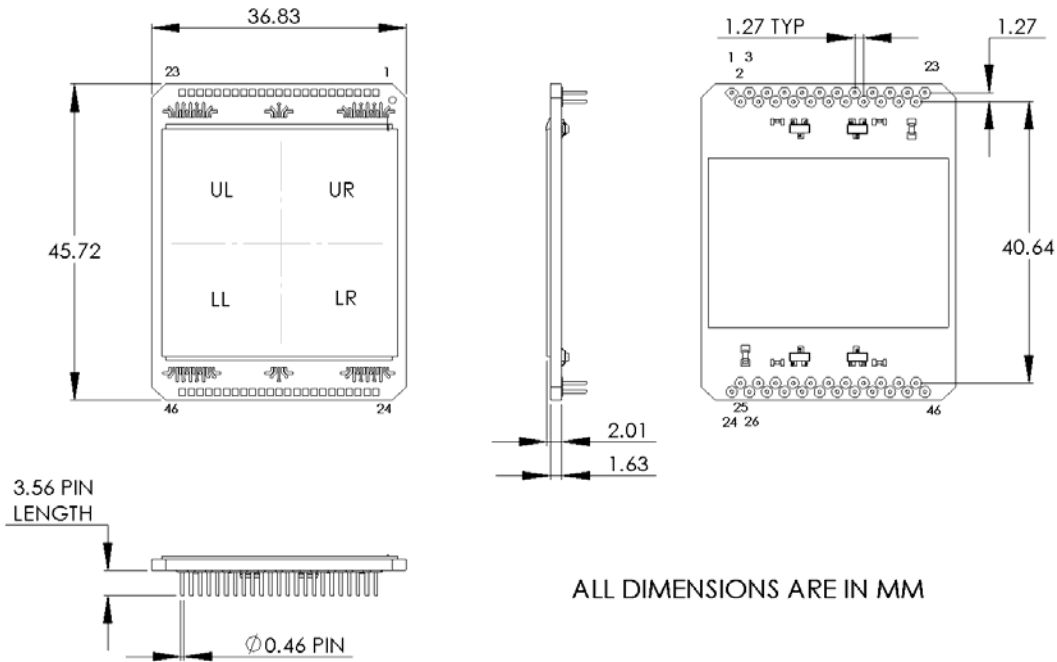

Figure 1: CCD 3041 FI Package
Die Orientation and Pin Designation: CCD orientation is indicated as shown in Figure 1 below, with pin 1 shown in the upper right (UR) quadrant when CCD is viewed from above. Pinouts are as shown in Figure 2. Note that the same pinouts are used for the back-illuminated version of the 3041 sensor but will require a modified timing diagram for operation.